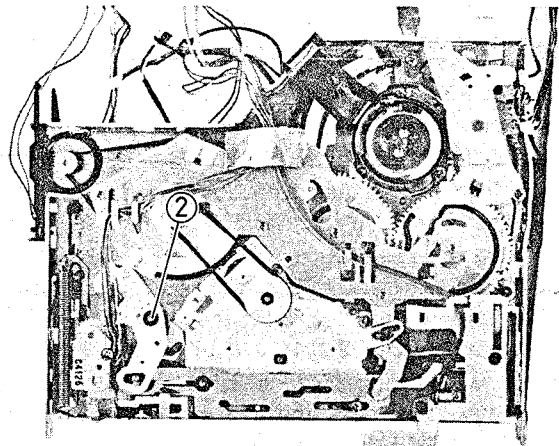

Fig. 2-109 PB/REC Drive Arm Removal
PB/REC Drive Arm Removal (Fig. 2-109)
2. Remove one (1) washer and pull out the PB/REC drive arm. (See Fig. 2-109)
3. Remove the PB/REC drive arm. (See Fig. 2-109)
4. Remove the cam gear arm (1) and (2). (See Fig. 2-109)
4. Remove the PB/REC drive arm. (See Fig. 2-109)